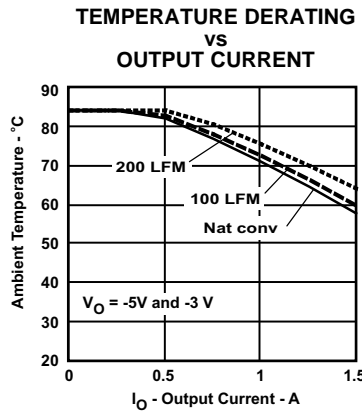

Figure 16.
- (2) The temperature derating curves represent the conditions at which internal components are at or below the manufacturer's maximum operating temperatures. Derating limits apply to modules soldered directly to a 100-mm x 100-mm, double-sided PCB with 2 oz. copper. Applies to Figure 16.